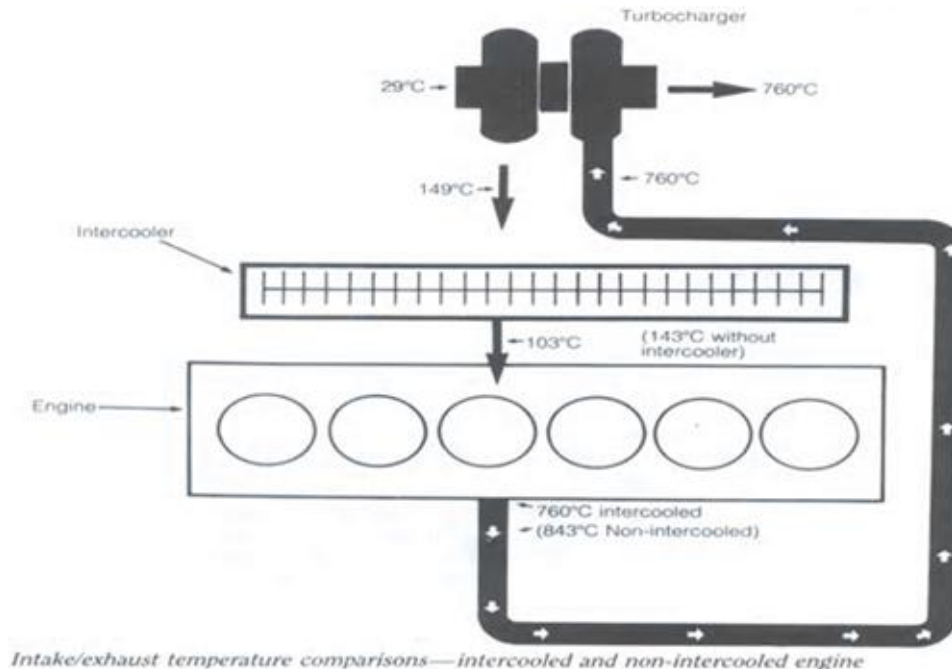

Fig. 7
- A turbocharger intercooler is an air-to-air heat exchanger that cools the air entering the engine. It is a radiator-like device mounted at the pressure outlet of the turbocharger (or supercharger). See Figure 7.
In so doing, the air charge becomes denser, allowing additional fuel to be efficiently burned, resulting in increased engine power and torque above that possible with a non-intercooled turbocharged engine. Fig 7 shows typical air and exhaust gas temperatures for intercooled and non-intercooled engines and non-intercooled engines.